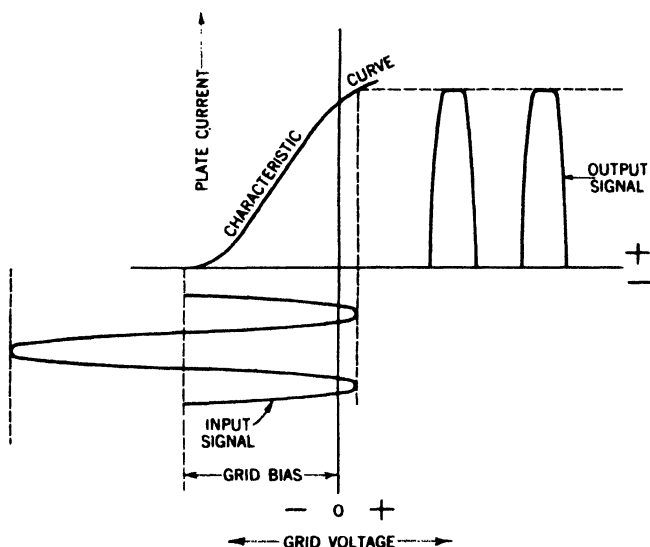

**Fig. 39-3.** The output is fed back into the oscillatory circuit by means of an inductor ( $L_1$ ).
A question now arises. Since some resistance is always present in every circuit and since energy is dissipated in this resistance, what keeps the oscillations going? The answer to our question is *feedback*. You will recall that in the case of the regenerative detector (Chap. 16) some energy from the plate circuit was fed back to the tuning circuit by mutual inductance. The same principle is used here (Fig. 39-3).
The next question that arises is, what makes the oscillator *self-starting*? In the case of the regenerative detector, the incoming signal started a current flowing in the tuning circuit. But there is no incoming signal here. The *grid-leak bias* does the trick for us. Since, at the start, there is no grid current flowing, the voltage drop across the grid leak is zero. Hence, the grid bias, also, is zero. If you examine the characteristic curve for the class C amplifier (Fig. 39-4), you will notice that when grid bias goes to zero, the plate current becomes quite great. This current, starting to flow through the feedback coil ( $L_1$ ) of Figure 39-3, induces a voltage in the tank circuit which starts the oscillations. Once started, these oscillations are kept going, as we have seen above.
**Types of Oscillator Circuits.** Although radio-tube oscillators may take many forms, they fall into two general types depending upon how feedback is accomplished. One type depends upon the inductive coupling between two coils to give us the required feedback. The simple oscillator shown in Figure 39-3 is of this type. A variation of this simple oscillator that is in wide use is the *Hartley* oscillator shown in Figure 39-5.
The novelty of this circuit lies in the fact that coil  $L$  is, in reality, two coils in one. Thus the whole coil is the inductor of the tank circuit, and the bottom part of coil  $L$  may be considered as the feedback coil corresponding to coil  $L_1$  of Figure 39-3. The frequency of the oscillating current is determined by the values of  $L$  and  $C$ . Output from this oscillator is obtained by inductive or capacitive coupling to coil  $L$ .